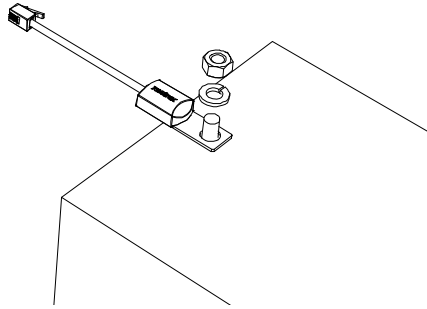

Figure 2-15 Attaching the BTS to a Battery Terminal
3. Connect the ring terminal on the BTS directly to the negative battery terminal (recommended), or use the adhesive backing on the sensor back to attach the sensor to any side of the battery to be monitored. See Figure 2-15.